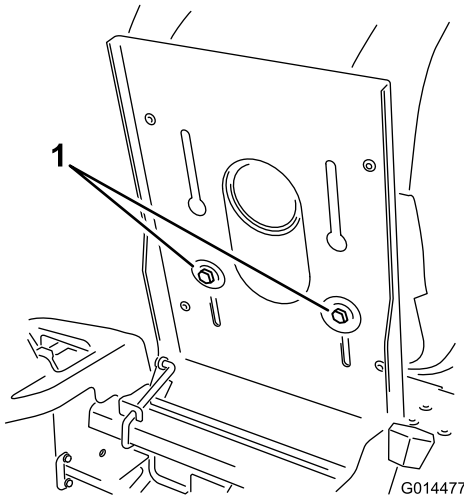

Figure 23
1. Raise the seat and loosen the adjustment bolts just enough that seat can move (Figure 23).